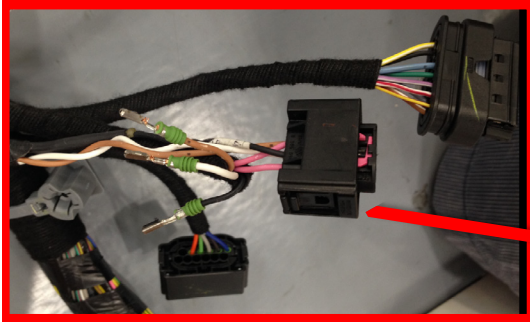
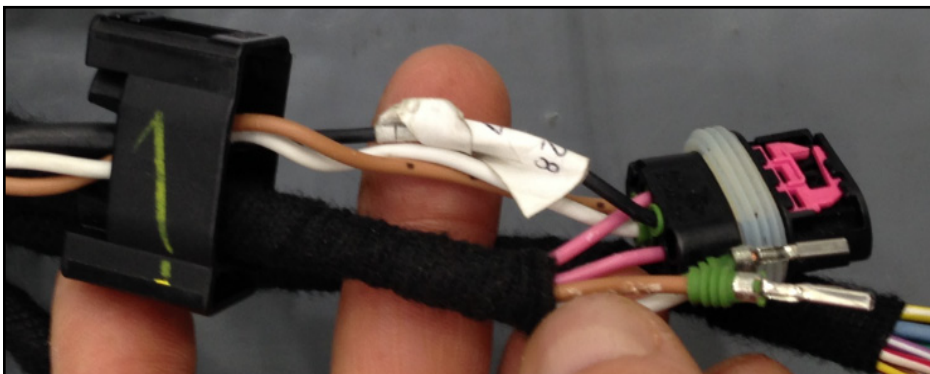

fig. 9a
fig. 9d
6. Use the TPA Insertion tool to set it in the locking position (Fig. 9a,b) back out the black cover is removed by pushing on the tabs (fig.c) and moving it as shown in (fig. 9d).
7. Slide the pink locking tab to remove wires and insert new harness overlay (fig. 9d,e,f)